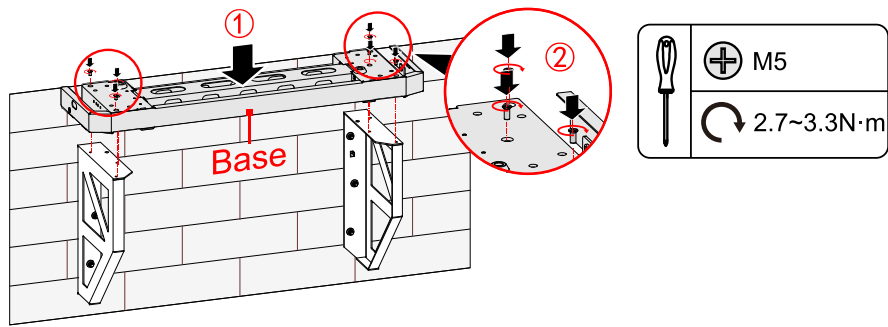

Figure 3-17 Assemble the support and base
4. Assemble the support and base by screws M5, as shown in Figure 3-17.